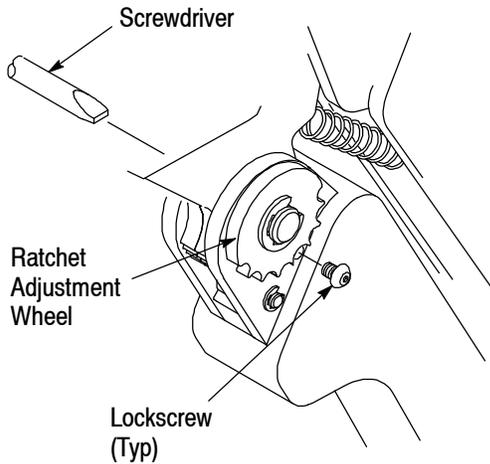

Figure 6
**6. RATCHET (Crimp Height) ADJUSTMENT (Figure 6)**